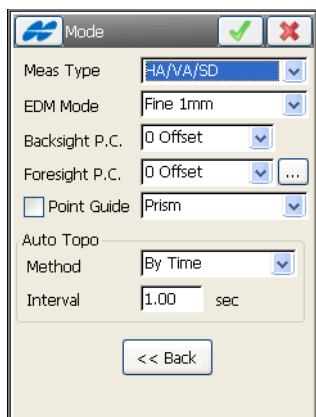

Figure 11-27. Mode Screen – Auto Topo Settings
This function is activated only with Robotic instruments, and collects points by Time and Distance. To open the *Auto Topo* screen (Figure 11-27), select the **Auto Topo** icon in the Robotic mode.
- Pressing  – opens the **Mode** screen (see Figure 11-3 on page 11-3). Press **Next** to access the Auto Topo settings (Figure 11-27 on page 11-26):